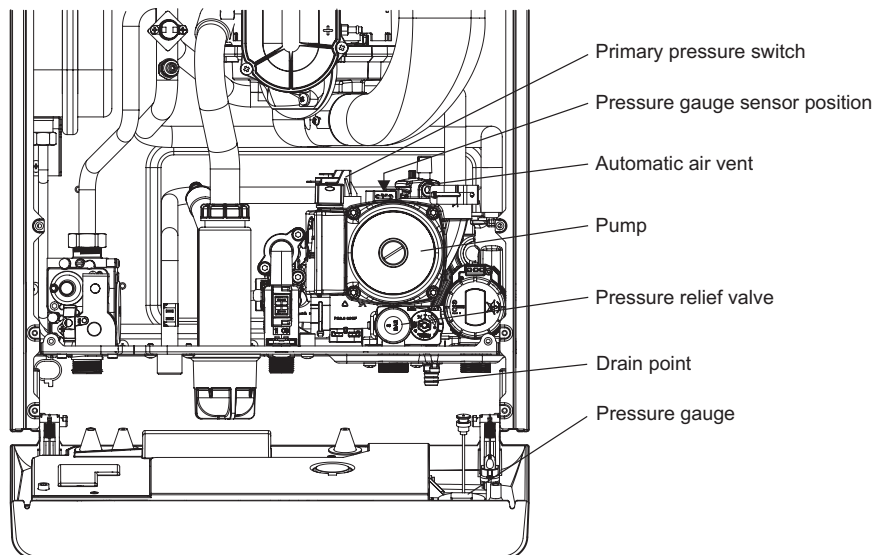

Fig. 34
1. The DHW sensor is positioned in the hot water outlet pipe to the left of the flow switch, see Fig. 34. Unplug the two connections and unclip the sensor from the pipe.
### 7.20 PRESSURE GAUGE - Fig. 34
### 7.22 AUTOMATIC AIR VENT - Fig. 34
### **7.23 PUMP - Fig. 34**
### **7.24 PRIMARY PRESSURE SWITCH - Fig. 34**
### **7.25 PRESSURE RELIEF VALVE - Fig. 34**